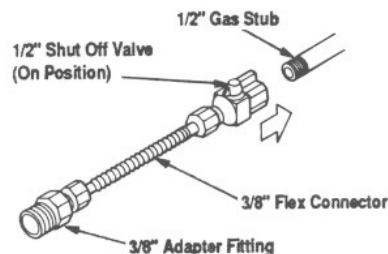

Figure 9
Step 9. Attach a 3/8" flex connector (12" length; 24" length if gas supply line is installed on the left side) with a shut off valve and a 3/8" adapter to the 1/2" gas supply stub, using a wrench and pipe joint compound. Tighten screws securely (Figure 9).